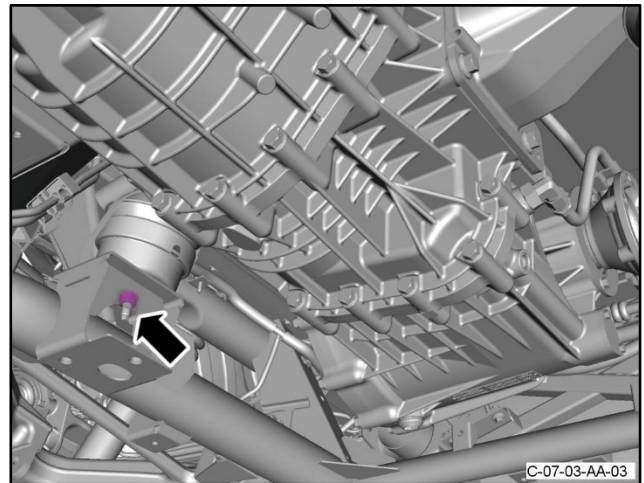

Figure 18
29. Remove the nut that attaches the right-side transaxle mount to the rear subframe (refer to Figure 18).